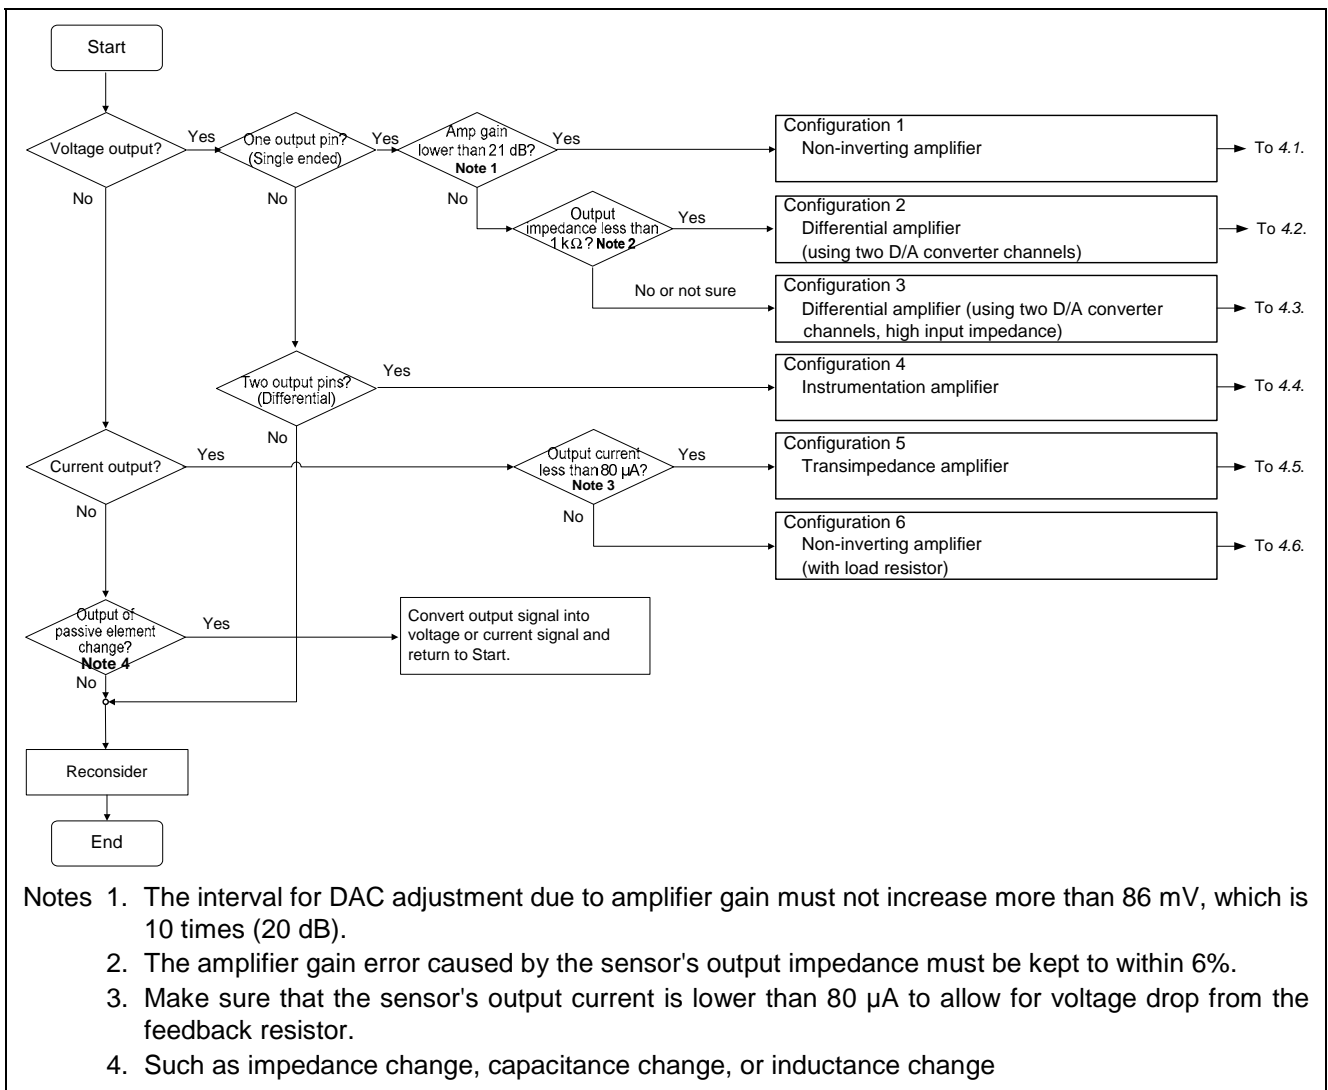

Figure 3-1 Selecting a Configurable Amplifier
- (4) Determine the required amplifier configuration by referring to the flowchart shown in Figure 3-1.
- (5) Consider the connection between the sensor output pins and the Smart Analog IC input pins, and connect the sensor to the evaluation board.
- (6) Design the configurable amplifier configuration and required analog parameters by using the GUI software Smart Analog Easy Starter and evaluate the sensor.
The flowchart for selecting the configurable amplifier configuration is shown in Figure 3-1 below. This flowchart is provided for illustrative purposes to show how to select the amplifier configuration based on the specifications and characteristics of the sensor used. Note that the ideal configuration of the configurable amplifiers in Smart Analog IC 300 will differ depending on factors such as the output range, accuracy (current value, etc.), and equivalent circuits of the sensor, even for sensors that output the same type of signal (i.e., current output).
This section describes the features of each of the configurations shown in Figure 3-1.